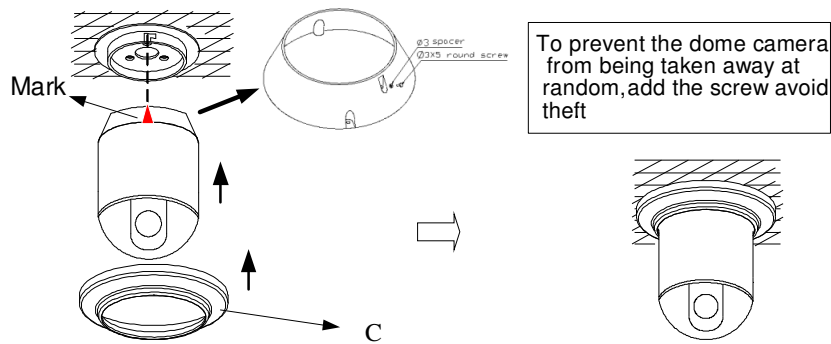

Figure 7
- 3) Aiming the "MARK" on the ball at the notch on the pedestal, push the ball upward to the end and rotate clockwise until it is clicked (as shown on Figure 7).
- 4) Put the decoration ring near the ceiling and rotate it clockwise until it is tightened (Figure 7).